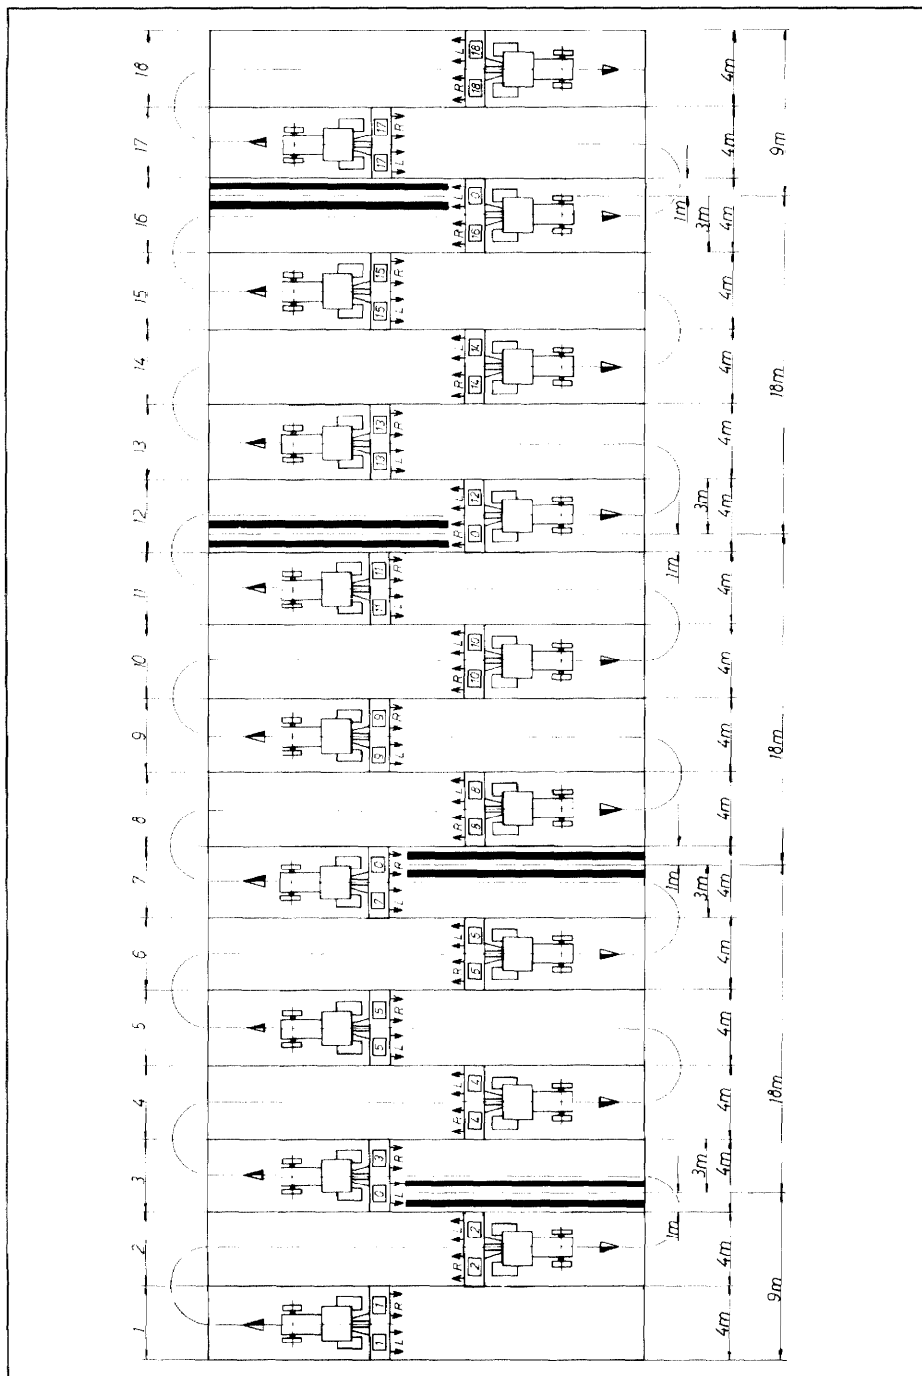

Fig. 89
- 3) During operation both switch boxes show the switching rhythm as follows (compare Fig. 89):